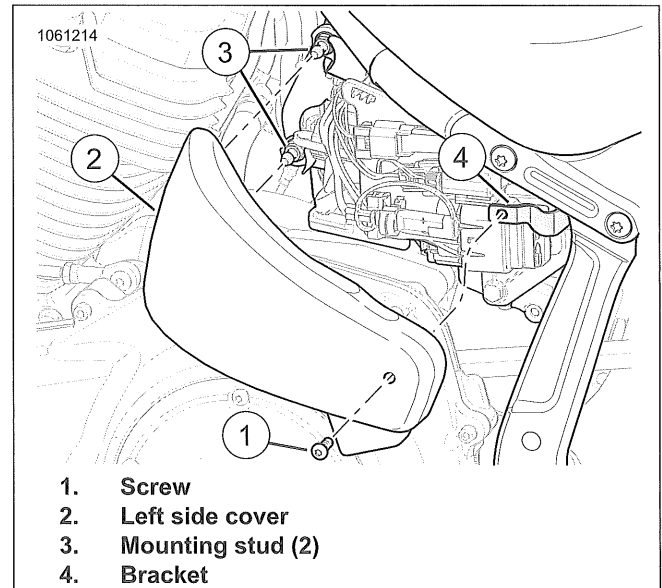

Figure 3-67. Left Side Cover
1. See Figure 3-67. Remove side cover.
- a. Remove screw (1).
- b. Pull side cover (2) away to release grommets from mounting studs (3).
1. See Figure 3-67. Install bracket, if removed.
- a. Install bracket (4).